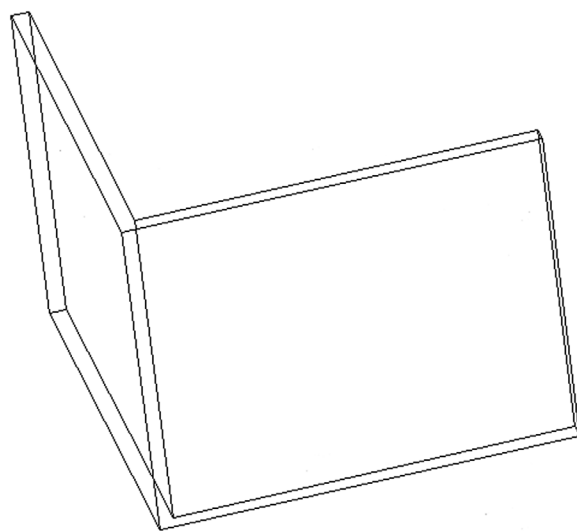

FIGURE 23.12 3D modeling exercise, Step 2.
- Step 2.** Use the union command to fuse the walls together. Fig. 23.12 shows another, slightly rotated, view of the walls in wireframe after the application of union. Notice where they intersect; they are clearly in one piece, not two separate panels.